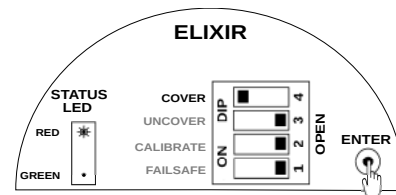

Figure 12: Setting Cover Delay
3. Press ENTER and keep it pressed as shown in Figure 12. The STATUS RED LED will start blinking. Count the number of blinks. After setting the value release the ENTER key.